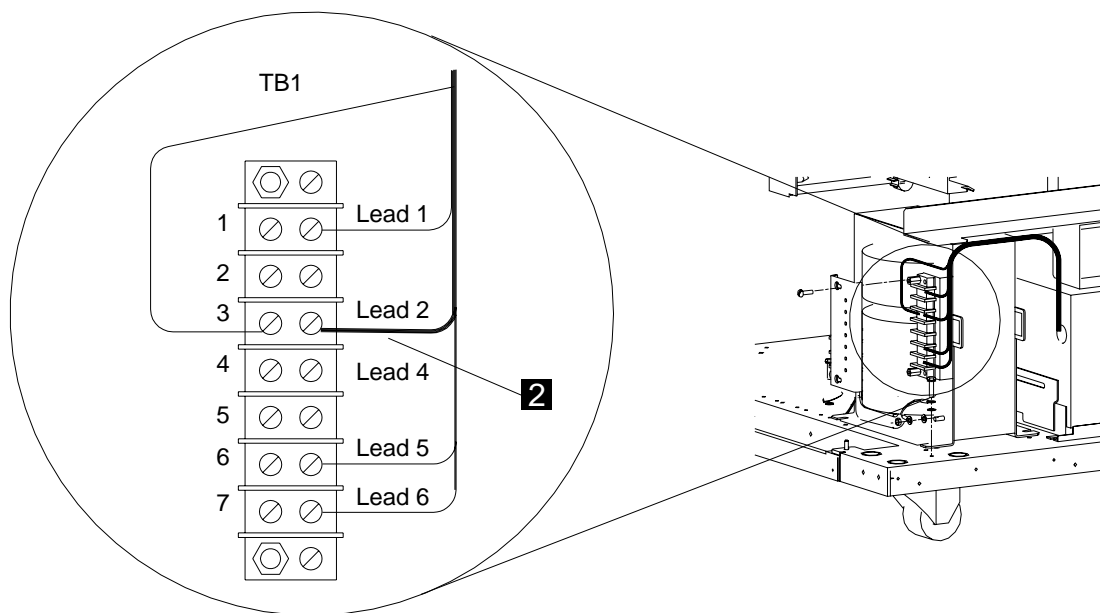

Figure 2-29. AC Power Transformer Connection
2. According to the voltage recorded previously in step 2 on page 2-25, move the cable lead **2** from 01Q-A1 TB1-2 to TB1-3 or to TB1-4 (see Figure 2-29).